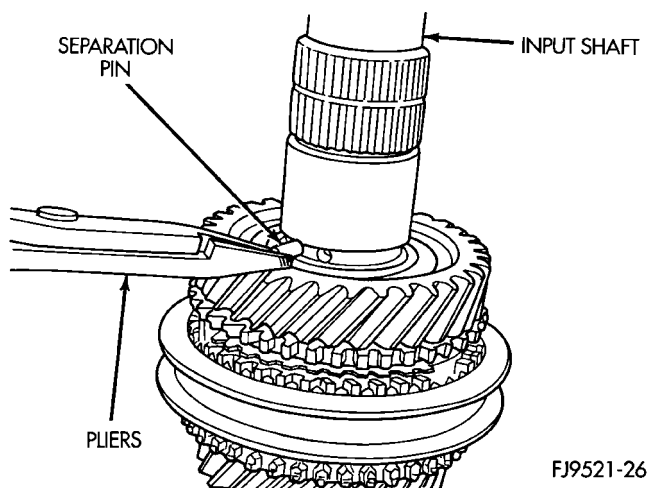

Fig. 91 Split Thrust Washer Separation Pin Installation
(4) Install 3-4 synchronizer snap ring into slot on input shaft.
(5) Install blocking ring into 3-4 synchronizer. Install 4th gear caged needle bearing.
(6) Install 4th gear onto input shaft.
(7) Install 4-5 split thrust washer separation pin (Fig. 91).